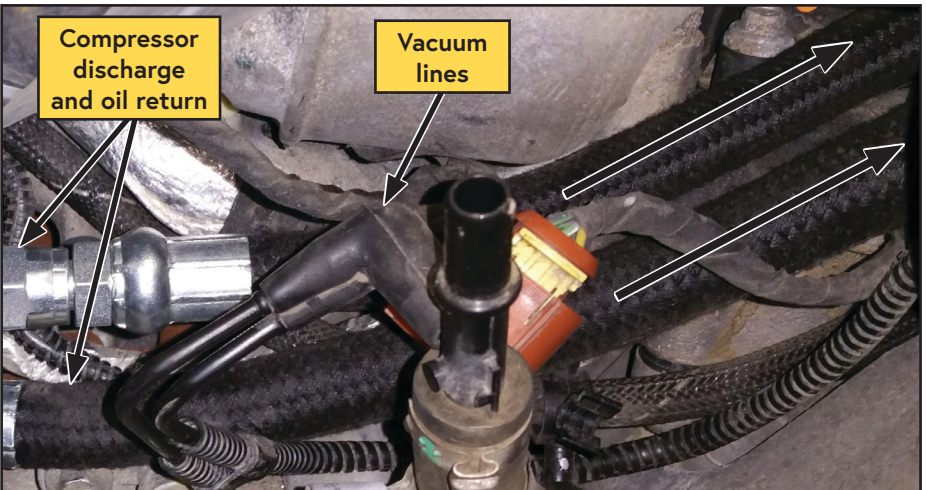

Figure 31 — Routing the hoses from the compressor
- Route the 1/2 in x 25 in discharge hose, the 3/8 in x 240 in oil return hose, and the 1/4 in x 240 in PTFE tube under the OEM intake manifold (Figure 31).
- Ensure the OEM vacuum lines and wiring are not pinched. The vacuum lines and/or wiring may need to be disconnected to route them correctly (Figure 31).